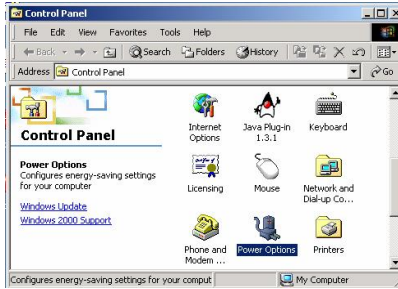

Figure 13 Power Options icon
9. From the Control Panel, double-click the Power Options icon. See Figure 13. The Power Options properties box appears.